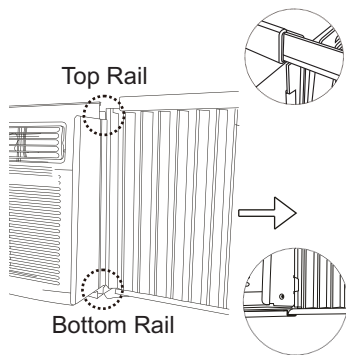

Fig.3
- C. Once the panel has been installed on the side of the cabinet, make sure it sits securely inside the frame channel by making slight adjustments. Slide the top and bottom ends of the frame into the top and bottom rails of the cabinet. Fig .3.